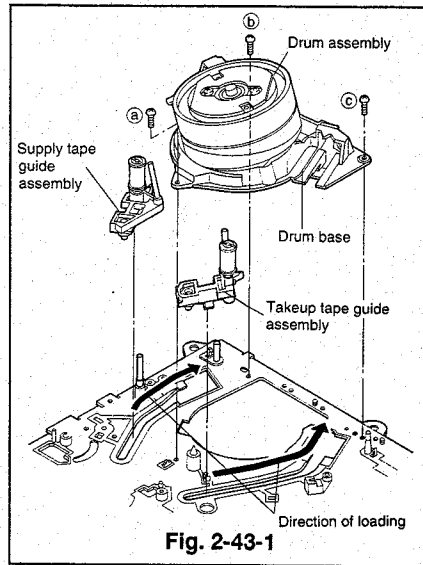

Fig. 2-43-1
(Refer to Fig. 2-43-1.)
- ② Install the supply and takeup tape guide assemblies so that they respectively enter the holes at the ends of the loading arms (SP and TU) attached to the reverse side of the deck as shown in Fig. 2-43-1.
- ⑤ Install the drum base on which the drum assembly is attached and secure it with the three screws (Ⓐ, Ⓑ and Ⓒ) as shown in Fig. 2-43-1.